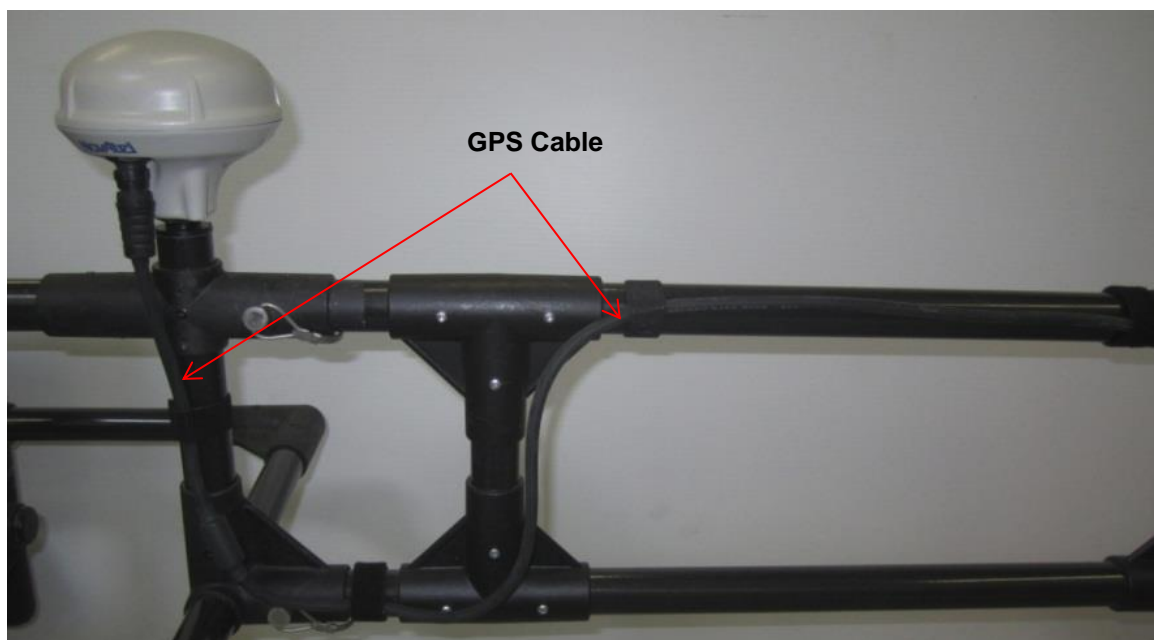

Figure 2-80: Routing GPS cable
1. Route the GPS cable up to the top of the SmartChariot Handle Assembly (Figure 2-80).